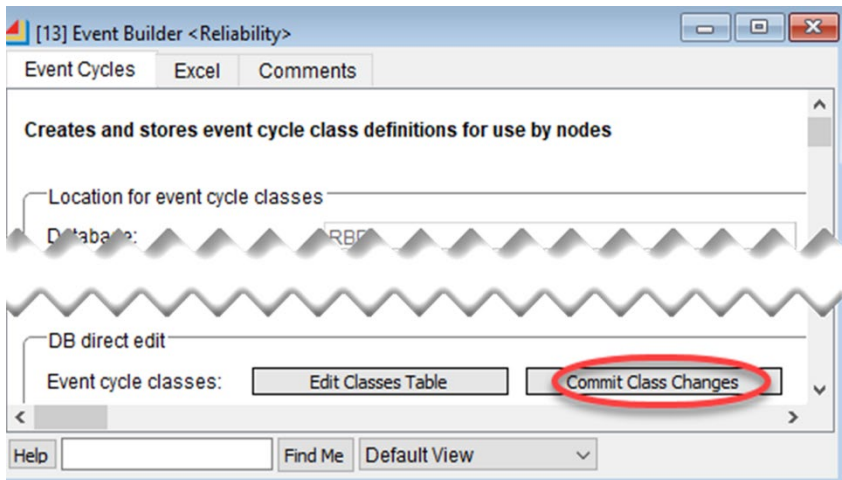

Figure 11-14: Committing class changes
Step 10. Close the table and commit the changes as shown in *Figure 11-14*.